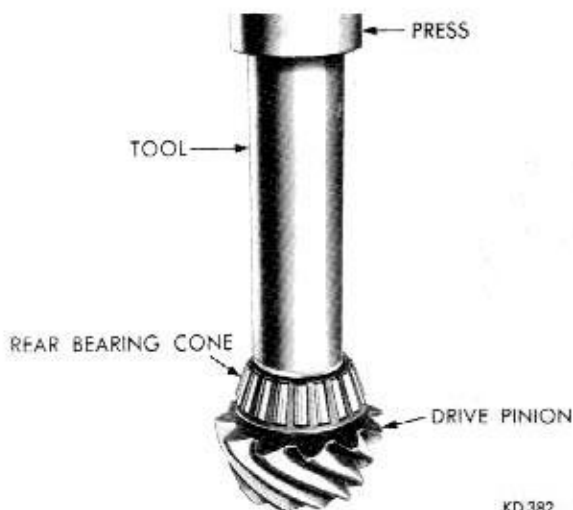
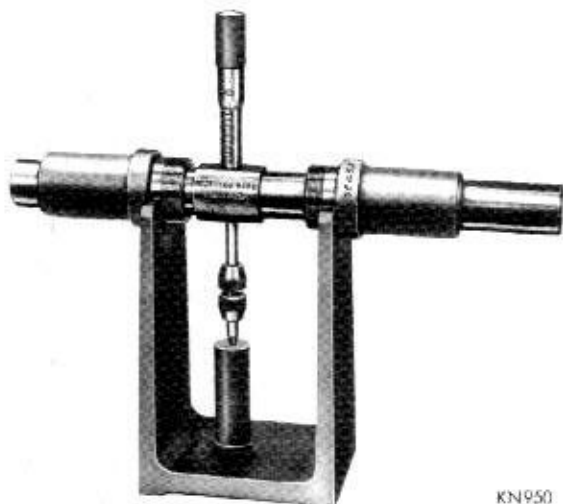

Fig. 36—Installing Rear Pinion Bearing Cone
Fig. 38—Checking Gauge in Master Gauge Assembly
(2) Install front pinion bearing cup in carrier.
(3) Lubricate rear drive pinion bearing cone with Sure-Grip Lubricant, Part Number 2585318, or equivalent, and install bearing cone on pinion stem with Tool C-3095 (Fig. 36).
(4) Position drive pinion and bearing assembly in carrier and install front pinion bearing cone on pinion stem. Do not install preload shims behind front pinion bearing at this time.
(5) Install universal joint pinion flange followed by washer and nut. Tighten nut just enough to obtain 10-30 inch-pounds of preload. Rotate drive pinion while tightening to seat bearing rollers.
(6) The pinion depth gauge Tool DD-1244 (Fig. 37), is a direct reading precision micrometer, mounted in an arbor and is calibrated to show the distance from the end of the anvil to the centerline of the gauge set. To check the accuracy of the gauge, install the micrometer and arbor in the master gauge. Install the checking block and read the micrometer, it should be accurate within less than .0005 inch (Fig. 38).
(7) Select the proper adapters from the gauge set that fits the differential bearing cup bores. Install the adapters on the arbor and position in carrier housing.
(14) Lubricate rear drive pinion bearing cone with Sure-Grip Lubricant, Part Number 2585318 or equivalent and install bearing cone on pinion stem using Tool C-3095. An arbor press may be used in conjunction with tool (Fig. 36).
(15) Install drive pinion and bearing assembly in carrier and install the original front pinion bearing shim pack followed by the bearing cone. **Do not install oil seal at this time.**
(16) Install universal joint flange, washer and nut. Tighten nut 250-270 foot-pounds. Rotate pinion several complete revolutions to seat bearing rollers.